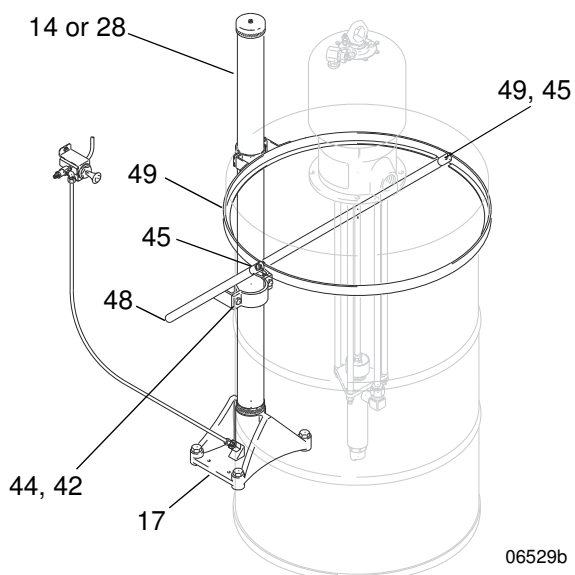

FIG. 4
Place the cover in its proper position in the support ring (49) and tighten the capscrews (45). Set an open drum against the elevator base (17) and put the cover on the drum so the support clamp (44) recesses are tight against the elevator riser tube (14 or 28). Raise the tube 0.25 in. (6.4 mm), then tighten the clamp screws (42). See FIG. 4.